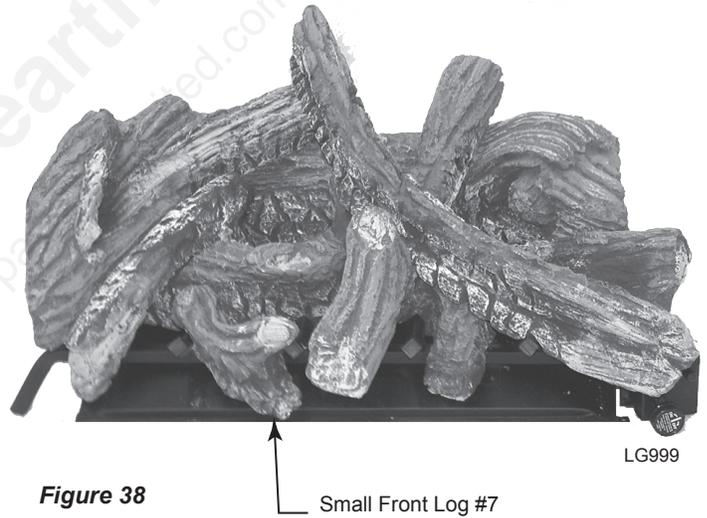

Figure 38
7. Place small front log (#7) between center crossover log and top left log. *Figure 38*